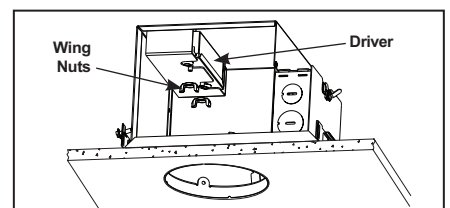

Figure 11
**Step 4.** Loosen wing nuts and slide driver out of the mounting bracket. Remove from housing. (Fig. 11)
**Step 3.** Remove the wing nuts holding the driver to the housing. Bring driver (with leads connected) through ceiling opening. (Fig. 11)